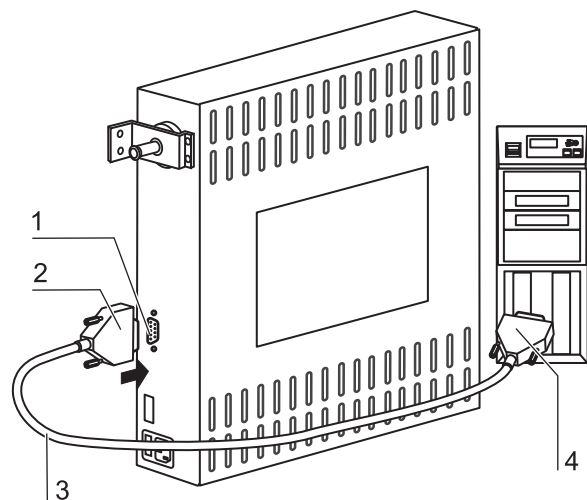

Fig.14: RS 232 interface
2. **Fig.14:** Connect the connector [2] of the serial interface cable [3] (not comprised in the scope of delivery) to the socket [1] at the supply interface at the rear of the device.